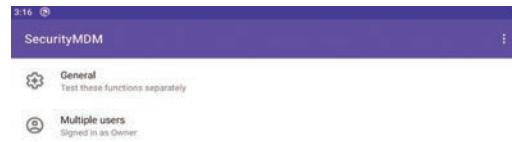

Figure 8. Multiple Users
2. Tap on Multiple Users, (Figure 8).